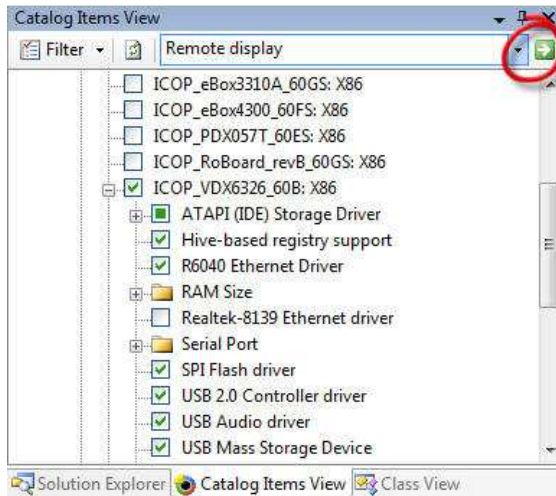

Fig. 15 - Locate component using the search feature
- From the Catalog Item View tab, enter “Remote display” in the search text box on the top right corner, as shown in Figure 15, and click on the green arrow to the right of the search text box to search for the component.